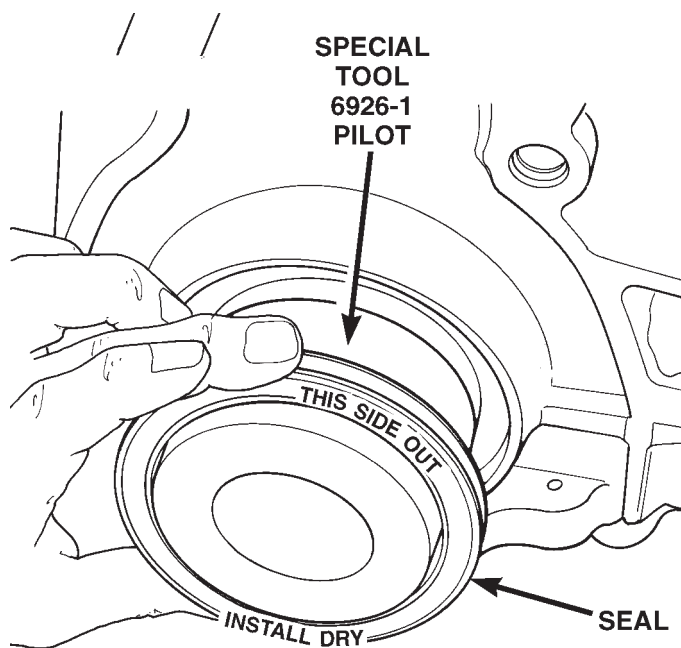

Fig. 72 Rear Crankshaft Seal and Special Tool 6926-1
(1) Place Special Tool 6926-1 on crankshaft. This is a pilot tool with a magnetic base (Fig. 72).
(2) Position seal over pilot tool. Make sure you can read the words **THIS SIDE OUT** on seal (Fig. 72). Pilot tool should remain on crankshaft during installation of seal. Ensure that the lip of the seal is facing towards the crankcase during installation.